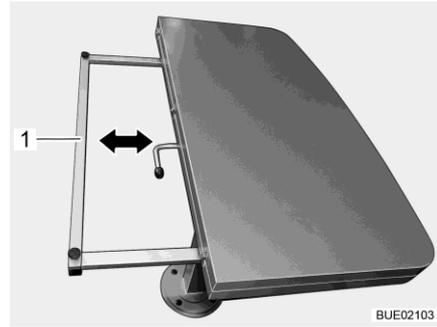

Fig. 130 Reducing the table top size
- Hold the supporting frame (Fig. 130,1) on both sides and push it underneath the table top as far as it will go.